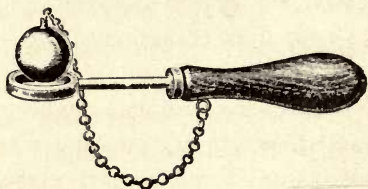

FIG. 1
8. Expansion of Solids. The expansion effect upon solids may be shown as follows: Figure 1 represents a ball and ring, both made of brass, the inside diameter of the ring being just equal to the diameter of the ball as long as both are at the same temperature. If the ball is heated considerably, it will be found that it will no longer pass through the ring. If the ring also is heated, the ball will now pass through.